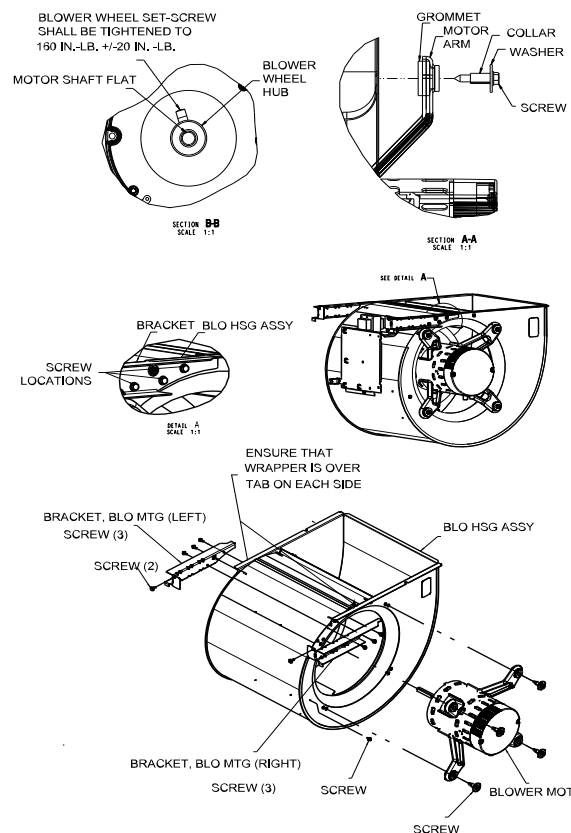

Fig. 66 – Blower Assembly on 66100M21
5. On 66100M21 size, the top screw securing blower to shelf must be removed in order to remove the blower. (See Fig. 66) Clean blower wheel and motor using a vacuum with soft brush attachment. Blower wheel blades may be cleaned with a small paint or flux brush. Do not remove or disturb balance weights (clips) on blower wheel blades.
9. On , ensure that the blower wrapper sits on top of the two tabs on blower sidewalls. (Fig. 66) Verify that blower wheel is centered in blower housing and set screw contacts the flat portion of the motor shaft. Loosen set screw on blower wheel and reposition if necessary.